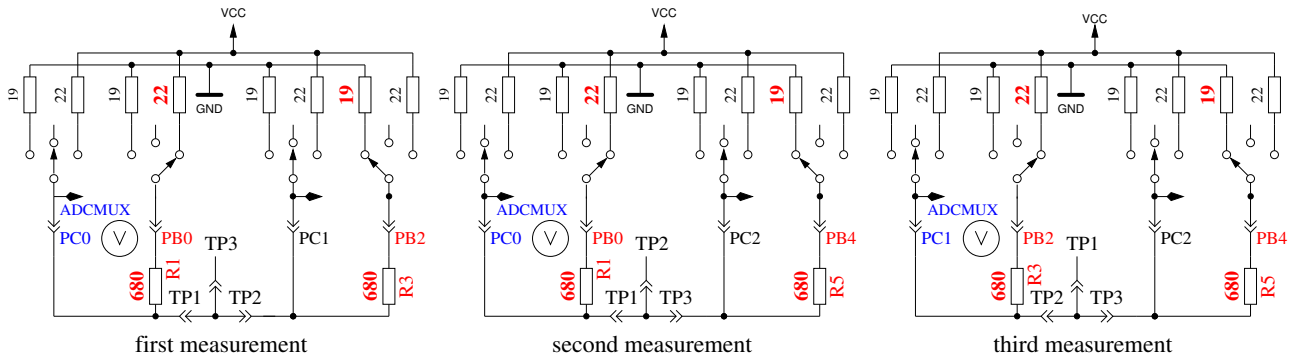

Figure 5.36: Comparison of 680Ω resistors
2. **Comparing of the 680Ω resistors.** In row 1 the cryptic text “+RL- 12 13 23” is shown. Meaning of this is as follows: The RL is the short form of Resistor Low meaning the 680Ω resistors. The 12 stand for: resistor at pin 1 is connected to VCC (+) and resistor at pin 2 is connected to GND (-). The result of this measurement is displayed in row 2 at the first place as difference to the theoretical value. In row 1 follows now a “13” which means, that the first connection of measurement 1 is still connected with 680Ω to VCC but that the resistor of pin 3 is connected to GND. The result is displayed in the middle place of row 2 as difference to the theoretical value. The last measurement of this test “23.” means that now the resistor at pin 2 is connected to VCC (+) and the resistor of pin 3 is connected to GND. The result of measurement is displayed at the last place of LCR row 2 as difference to the theoretical value. Please remember, that the resolution of the ADC is about 4.88mV! The measurement situation is also shown in figure 5.36. The theoretical value with respect to the internal resistance of the pins should be: $\frac{5001 \cdot (19+680)}{(19+680+680+22)} = 2493$.